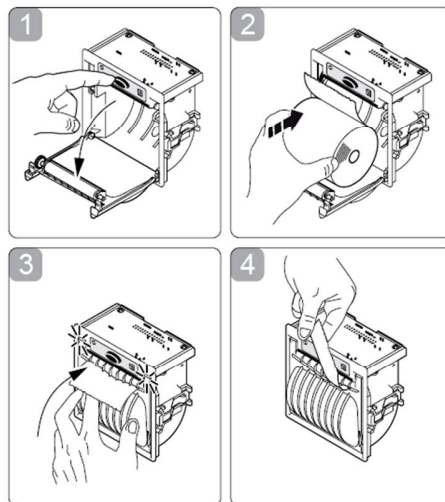

Fig. 3
2. Press the OPEN key to open the printer cover as shown (see Fig. 3/1). Handle the paper cutter carefully not to cut your hand.
3. Place the paper roll making sure it unrolls in the proper direction as shown (see Fig. 3/2).
4. Take out the paper and re-close the cover as shown (see Fig. 3/3) the printer cover is locked.
5. Tear off the exceeding paper using the jagged edge (see Fig. 3/4).